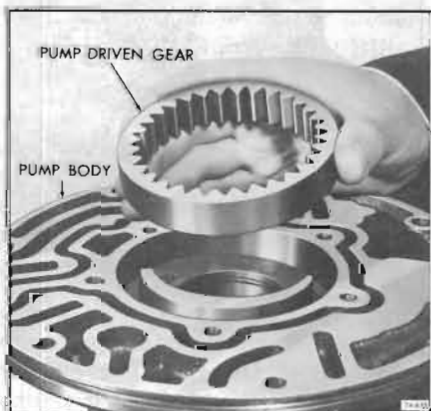

Figure 74-627
16. Remove driven gear from pump body. See Figure 74-627.